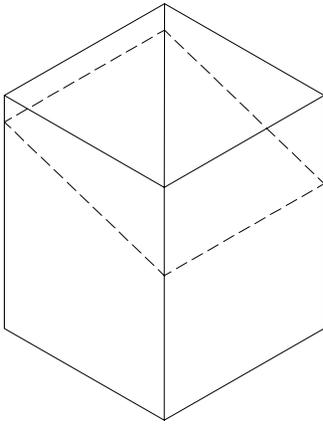

Fig 18
1. Mark a line on the side of the Cathedral Ceiling Support Box to correspond to the line of the roof pitch, as shown in Figure 18. Allow for the Support Box to protrude below the finished ceiling a minimum of 2 inches.